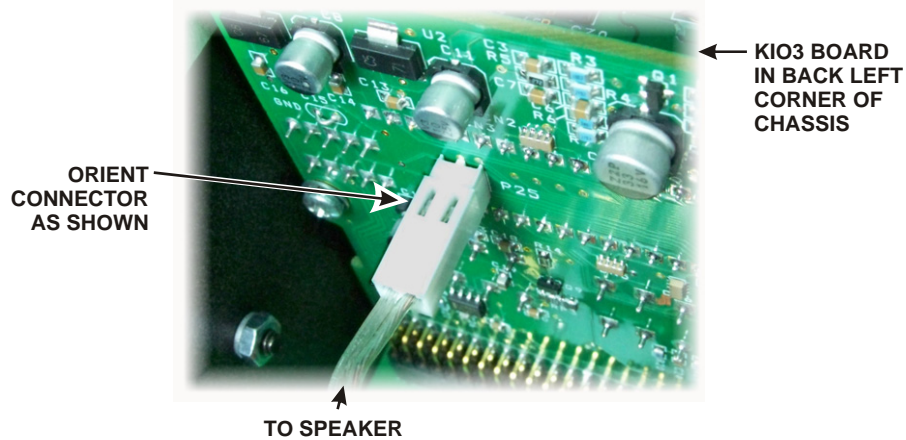

Figure 5. Connecting Speaker Cable.
- Turn the K3 right side up to replace the top cover. Hold the top cover above the K3 and plug the speaker wire into P25 on the KIO3 board at the left rear of the K3 as shown in Figure 5.